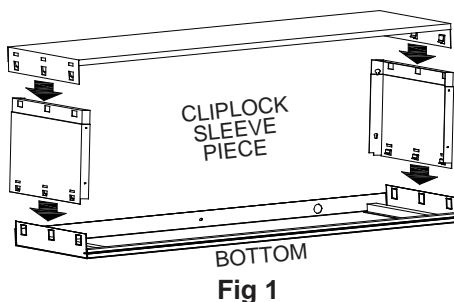

Fig 1
- Unpack all parts and accessories, referring to Fig 1.